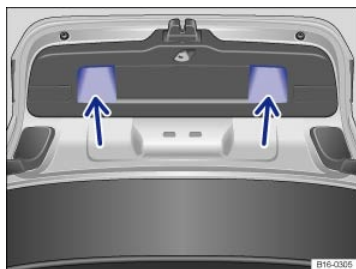

Fig. 32 Opened trunk lid: Recessed grips for closing.
- Grasp one of the recessed grips in the trunk lid trim ⇒ Fig. 32 (arrows).